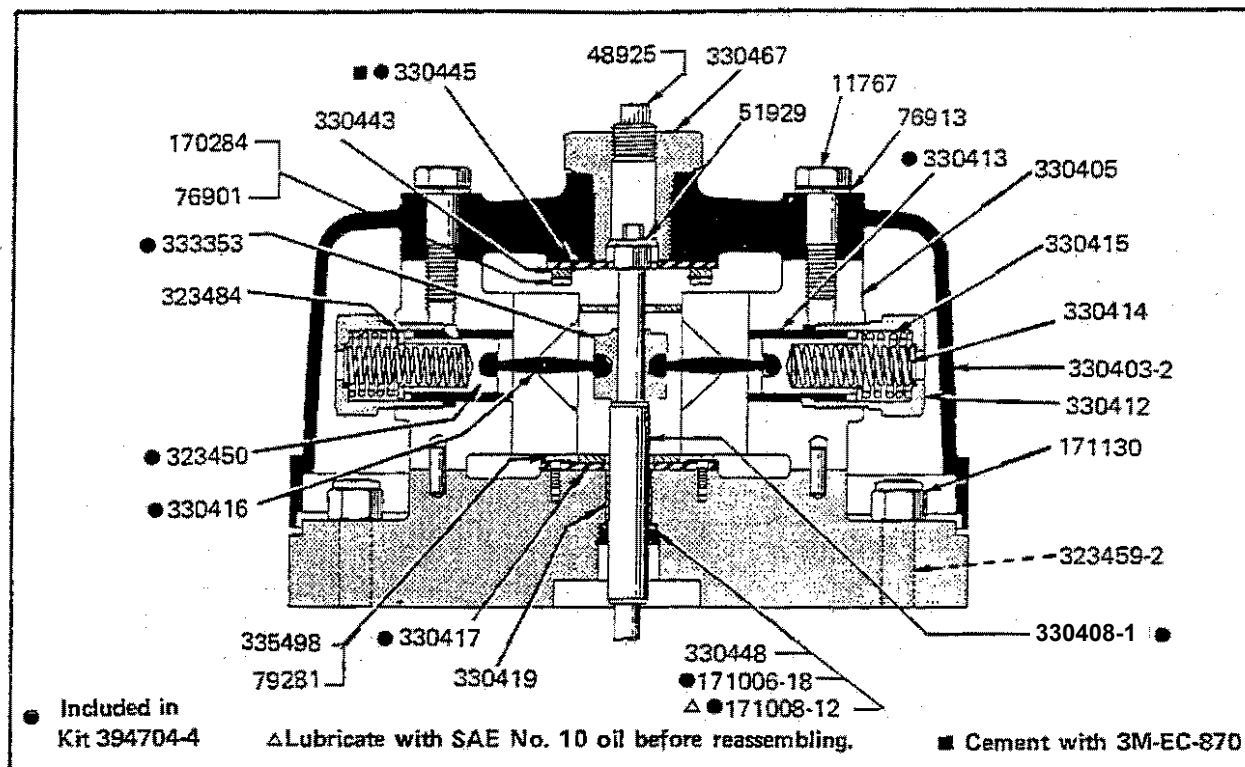

FIGURE 3 Air Motor Assembly G-330400 -4 (Upper End)
- b. By removing pipe plug 48925 (Figure 3) and replacing with a 3/8 PTF eyebolt, pump can be mounted in a suspended position.
C. To disassemble air motor G-330400-4, proceed as follows (Figures 3, 4, & 5):
2. Remove two hex head cap screws 11767 and lockwashers 76913 and lift off cover 330403-2 (Figure 3).
5. Remove toggle screw 330412 from body 330405 and pull out spring 330414, washer 323484, and spring 330415 (Figure 3). Repeat procedure on second body 330405.
6. Remove two hex socket head cap screws 170856 and lockwashers 76910 securing body 330405. Remove body 330405 and pull bushing 330413 off. Remove toggle plunger 323450 and toggle 330416 from shuttle 333353. Repeat procedure on second body 330405 (Figures 3 & 4).
7. Insert allen wrench into hole in top of trip rod 330408-1 and with a 9/16" wrench unscrew elastic stop nut 51929 from trip rod (Figure 3).
13. Unscrew eight cylinder head nuts 171130 from eight tie rods 323459-2. Carefully lift cylinder head assembly G-330433-B4 from cylinder 337734. Remove retaining ring 171006-18, washer 330448, and quad ring 171008-12 from cylinder head. Remove "O" ring 330449 from cylinder head assembly G-330433-B4 (Figures 3 and 5).